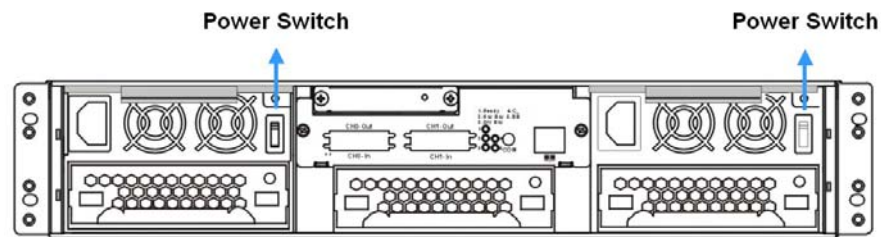

Figure 4- 10: Subsystem Power Switches
4. The “Power” LED on the front LCD panel will turn blue. (See **Figure 4- 10**)